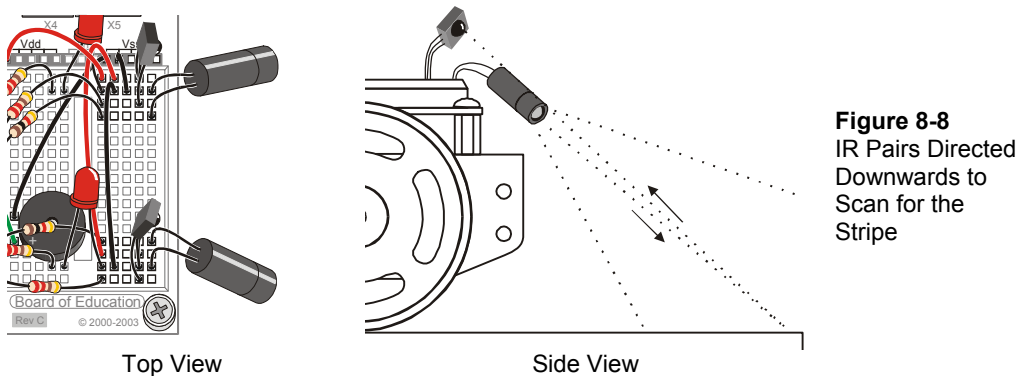

Figure 8-8
- ✓ Point your IR pairs downward and outward as shown in Figure 8-8 (Figure 7-8 from page 237 repeated here for convenience).